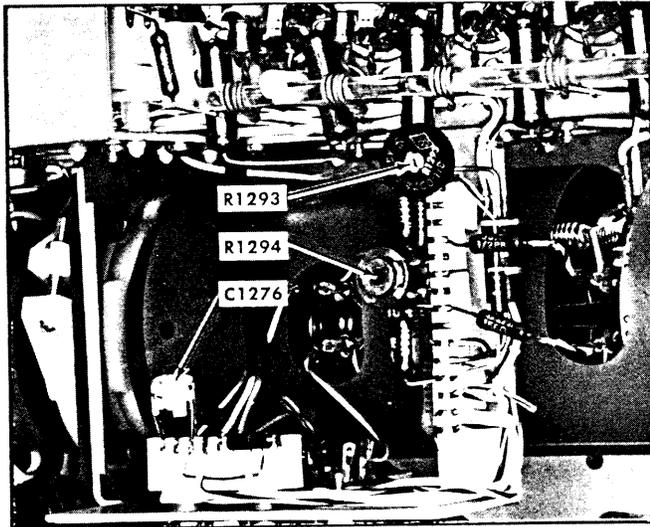

Fig. 6-41. CRT Termination network.
h. Change the A TIME/CM selector to 1 or 2 μ SEC, then adjust R1293 and C1276 (Fig. 6-41) for optimum overall level or minimum tilt. Waveform should be flat top through TIME/CM ranges from 1 mSEC to .05 μ SEC. Adjustment of R1293